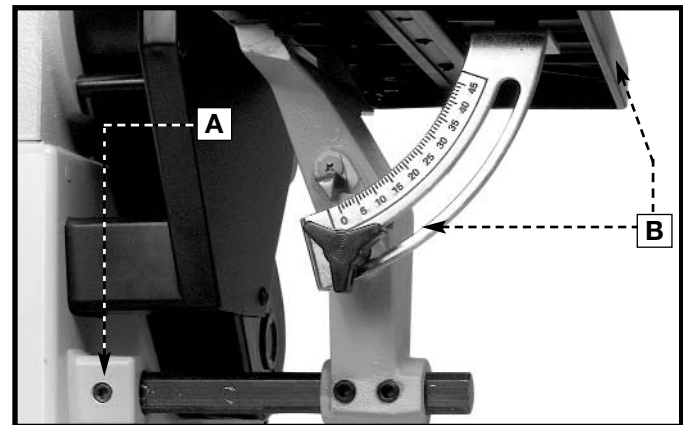

Fig. 41
1. Loosen the screw (A) Fig. 41, and remove the table assembly (B).